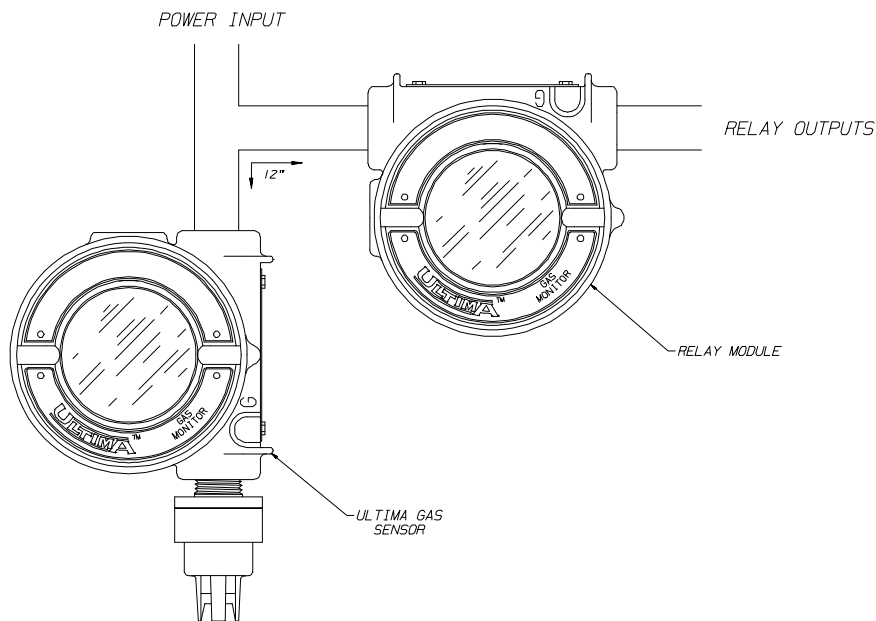

Figure 1-2.
The Ultima Gas Monitor and Ultima Relay Module must be mounted together, within 18 inches of one another. Generally, the Ultima Gas Monitor with Ultima Relay Module should be mounted close to the area where a leak or gas is expected. Follow the mounting procedures listed in your Ultima Gas Monitor Instruction Manual (P/N 813161). The Ultima Relay Module must be mounted to the right of the Ultima Gas Monitor (FIGURE 1-2). The Ultima Relay Module cannot be mounted further than 18 inches away from the Ultima Gas Monitor.
4. Route the communication cable through the port of the Ultima Gas Monitor (see FIGURE 1-2).
If the Ultima Gas Monitor is a two-wire connection, a separate power supply will be necessary to operate the Ultima Relay Module. FIGURE 1-2 gives a typical installation diagram.